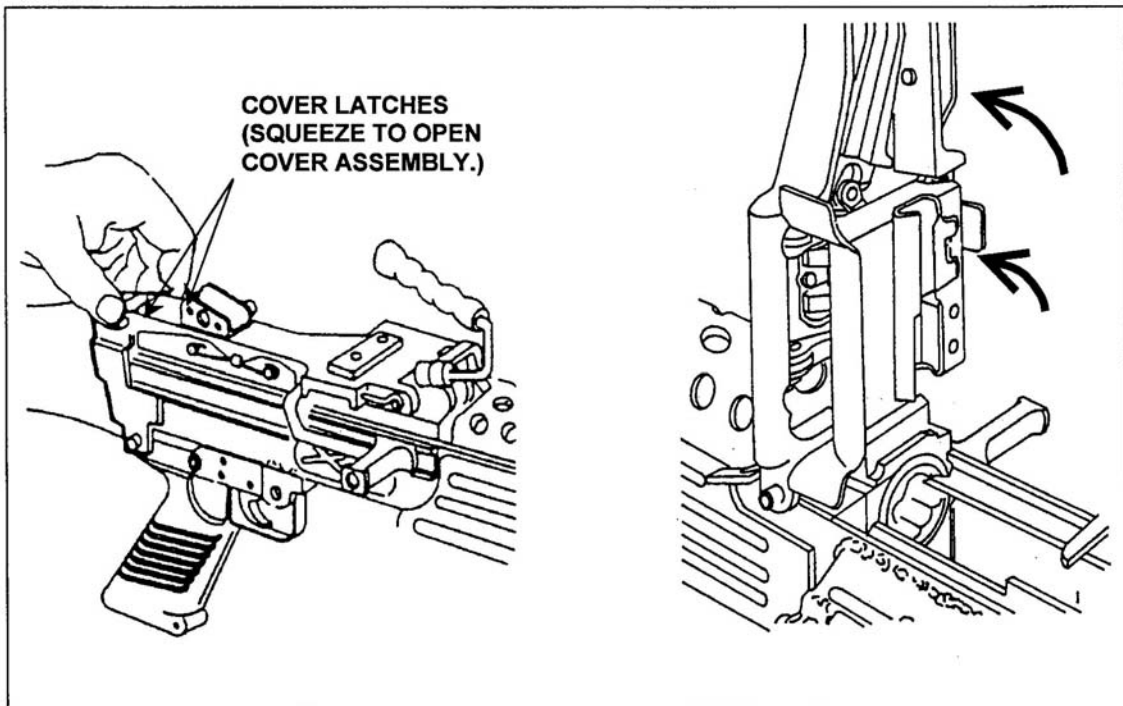

Figure 2. Checking the of feed tray, receiver, and chamber area.
4. Open the cover, raise the feed tray assembly, and make sure the feed tray, receiver, and chamber area are clear (Figure 2).